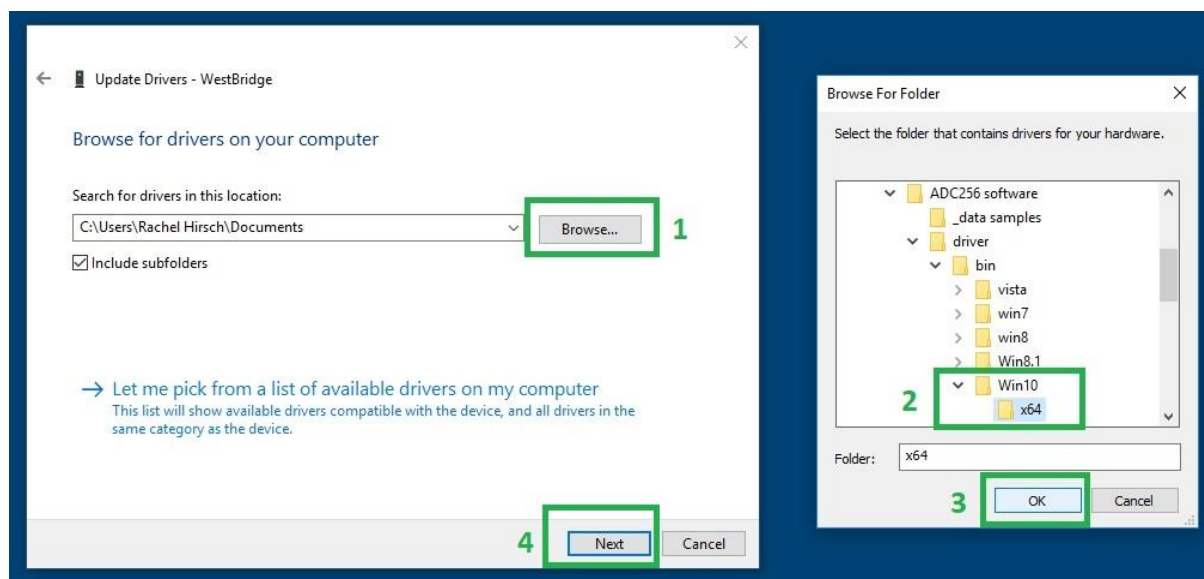

Figure 6. ADC256 driver installation. Step 2.
6. Follow Figure 6. Choose *Browse ...*, *Browse For Folder* with ADC256 driver, next choose subfolder with your Windows version. Press OK. Note, that driver supports both 64-bit and 32-bit Windows, but ADC256 software supports only 64-bit versions of Windows.